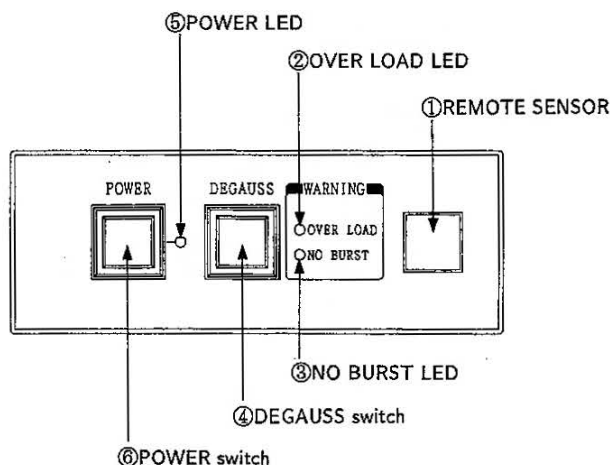

Fig. 5-2 Front Left Panel
(1) Degaussing
When the power is switched "ON" and this monitor starts up, the charged shadow mask is automatically degaussed. You can also degauss at any time by pressing the **DEGAUSS** switch indicated by ④ in Figure 5-2. Pressing the **DEGAUSS** switch over and over again continuously has no effect, so after pressing the switch, wait two or three minutes, then press again.
(2) Warning LED
The **WARNING** LEDs ② and ③ in Figure 5-2 indicate the following warnings.
② OVER LOAD LED
(3) Remote Sensor
The section indicated by ① in Figure 5-2 is the photoreceiver section for the RCT-20 optional infrared remote control.